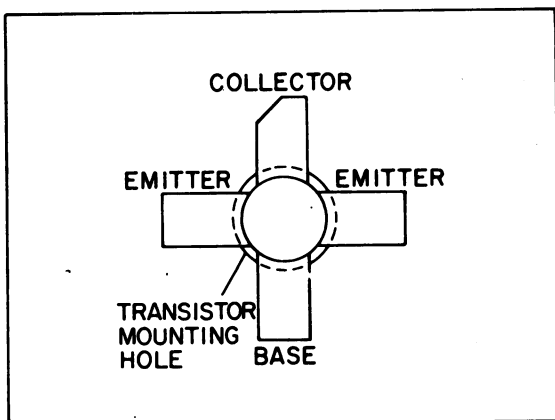
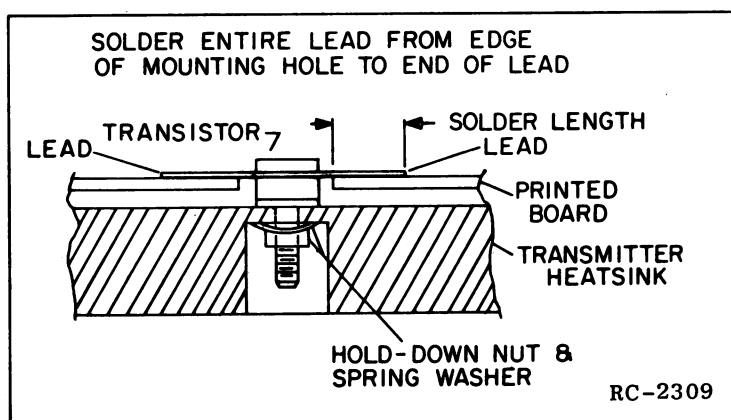

Figure 2 - Lead Identification
Figure 3 - Lead Forming
| Figure 2 - PA Transistor Lead Identification | 3 |
| Figure 3 - PA Transistor Lead Forming | 3 |
- (3) Hold the body of the transistor to prevent it from turning. Remove the transistor hold-down nut and spring washer through the hole in the heatsink with an 11/32-inch nut-driver for Q201, Q202 and Q203. Lift out the transistor, and remove the old solder from the printed circuit board with a de-soldering tool such as a SOLDA PULLT®. Special care should be taken to prevent damage to the printed circuit board runs because part of the matching network is included in the base and collector runs.
- (4) Trim the new transistor leads (if required) to the lead length of the removed transistor. Cut the collector lead at a 45° angle for future identification (see Figure 2). The letter "C" on the top of the transistor also indicates the collector.
- (5) Apply a coat of silicon grease around the transistor mounting surface, and place the transistor in the mounting hole. Align the leads as shown on the Outline Diagram. Then hold the body of the transistor and replace the hold-down nut and spring-washer, using moderate torque (8 inch-pounds). A torque wrench must be used for this adjustment since transistor damage can result if too little or too much torque is used.
- (6) Make sure that the transistor leads are formed as shown in Figure 3 so that the leads can be soldered to the printed circuit pattern, starting from the inner edge of the mounting hole.
- (7) Solder the leads to the printed circuit pattern. Start at the inner edge of mounting hole and solder the remaining length of transistor lead to the board. Use care not to use excessive heat that causes the printed wire board runs to lift up from the board. Check for shorts and solder bridges before applying power.